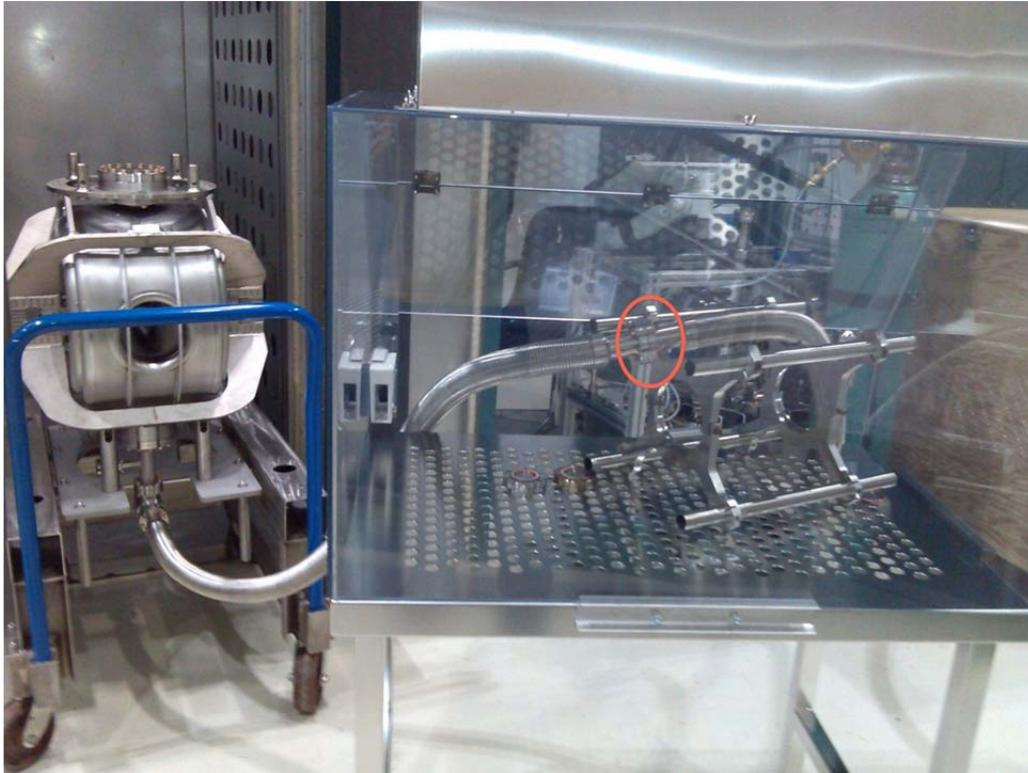

Figure 4 – Vacuum connection within portable clean hood
- Perform PFFA of vacuum connection. Note final connection in circled part of Figure 4.